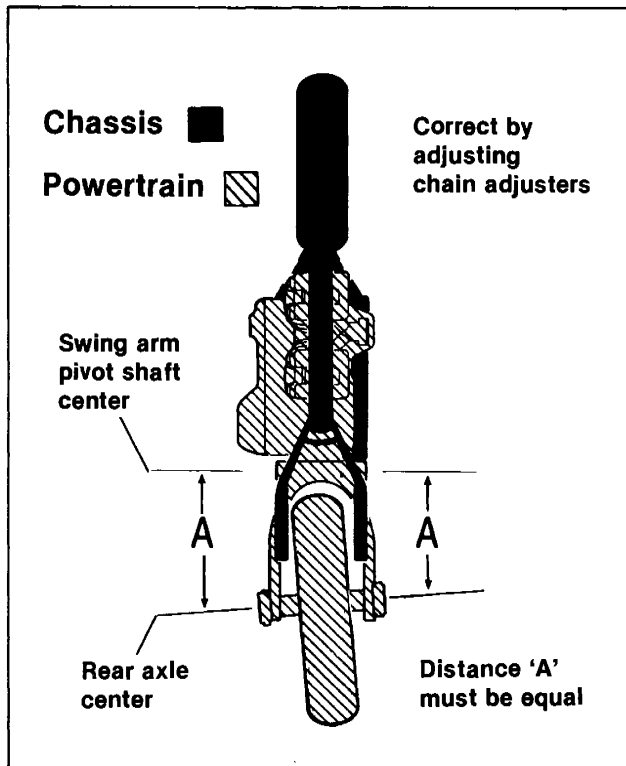

Figure 2-35. Rear Wheel Misaligned
5. See Figure 2-35. The measurement between the center of the rear axle and the center of the swing arm pivot shaft must be equal on both sides of the motorcycle. If it is not, adjust the rear wheel with the axle adjusters to accomplish the equal measurement. It is extremely important that this adjustment be made as accurately as possible in order to make the remaining adjustments accurate.